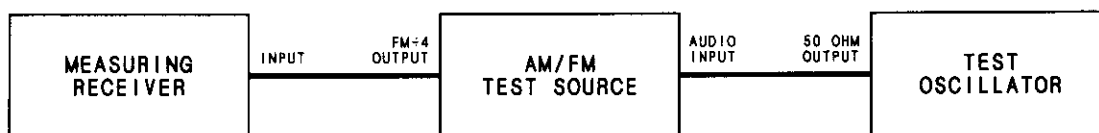

Figure 4-9. Measuring Receiver Incidental AM Verification Test Setup
- a. Connect the FM divide-by-4 output of the AM/FM test source to the input of the measuring receiver and the 50 ohm output of the test oscillator to the audio input of the AM/FM test source, as shown in Figure 4-9.